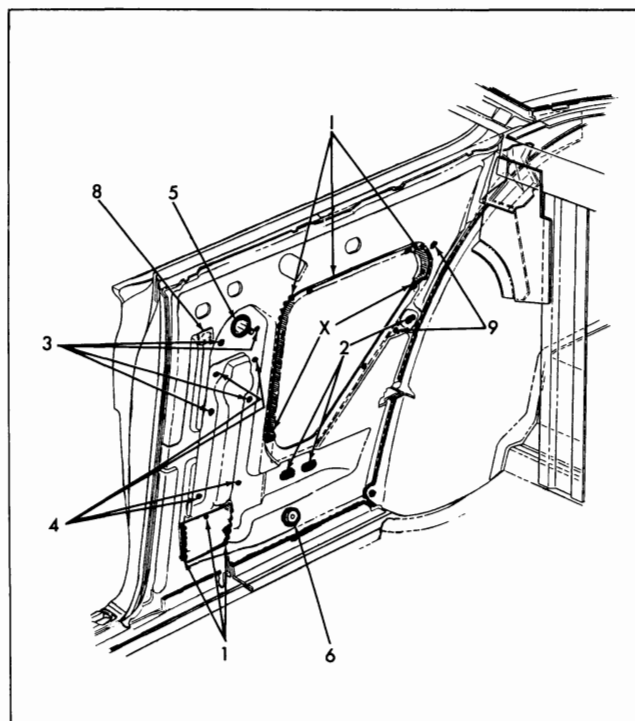

Fig. 4-11 Inner Panel Sealing - 47 and 57 Styles
- 47 and 57 styles - Figure 4-11
11. Seat Back to Quarter Panel Filler Panel Attaching Screw Holes (47 and 57 styles, Fig. 4-11) - Apply weatherstrip adhesive (black) over filler panel attaching holes.